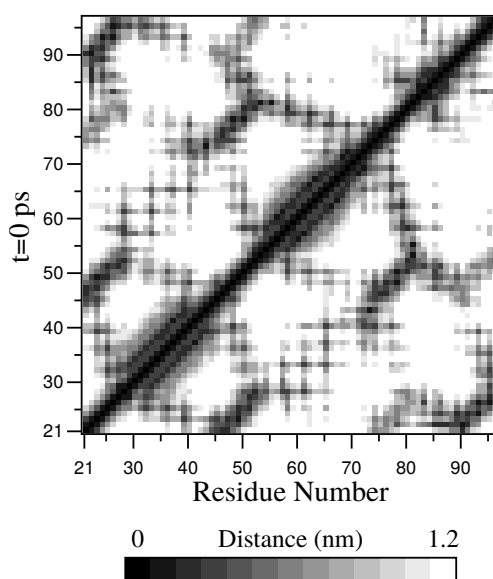

Fig. 5.55: A minimum distance matrix for a peptide *168* (page 510).
- To monitor the *minimum distances between amino acid residues* within a (protein) molecule, you can use the program *gmx mdmat* (page 110). This minimum distance between two residues  $A_i$  and  $A_j$  is defined as the smallest distance between any pair of atoms ( $i \in A_i, j \in A_j$ ). The output is a symmetrical matrix of smallest distances between all residues. To visualize this matrix, you can use a program such as *xv*. If you want to view the axes and legend or if you want to print the matrix, you can convert it with *xpm2ps* (page 179) into a Postscript Fig. 5.55.